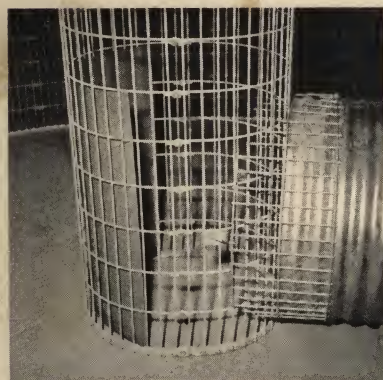

FIG. 15
4. No. 116013, Air Deflector Panel. Position panel as shown in Fig. 15 and wire to vertical ventilator.
6. No. 116014 "J" Bolt and No. 116015 Adapter Strap to hold Mesh Adapter to vertical ventilator. Position as shown in Fig. 15.
7. No. 3748-005 Corrugated Air Entry Tube. Slide tube through 32" dia. angle ring welded into crib panel and position flush against vertical ventilator as shown in Fig. 15 and 16.